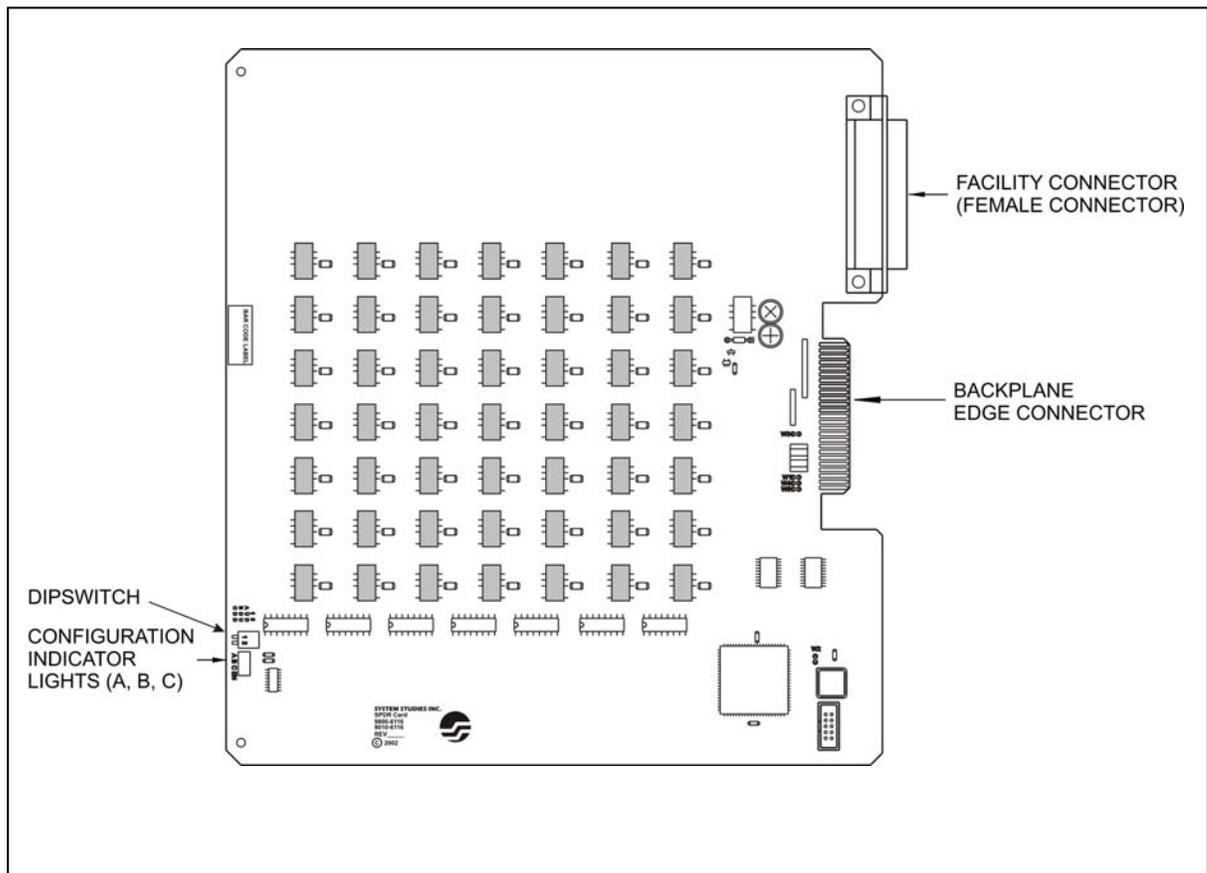

FIGURE 4-4: SPARTON DEDICATED REPLACEMENT CARD
3. Identify the configuration dipswitch module located in the lower left corner of the SPDR card (see FIGURE 4-4).
5. Check the configuration indicator lights on each SPDR (see FIGURE 4-4) to verify that the card has been set for the correct configuration.